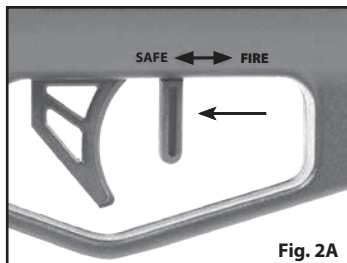

Fig. 2A
2. The safety is in the SAFE position, and the AIRBOW is "ON SAFE" when the Safety lever is in the rear position "Safe" (near trigger), and it cannot move backward any further. (FIG. 2A).